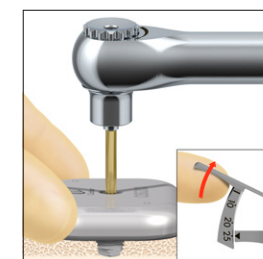

Fig.22: Hand tightening with 25 Ncm
9. Continue to tighten to 25 Ncm with the Machine screwdriver Unigrip and the Multi wrench with the ISO adapter, while holding the actuator with your fingers (Fig.22).